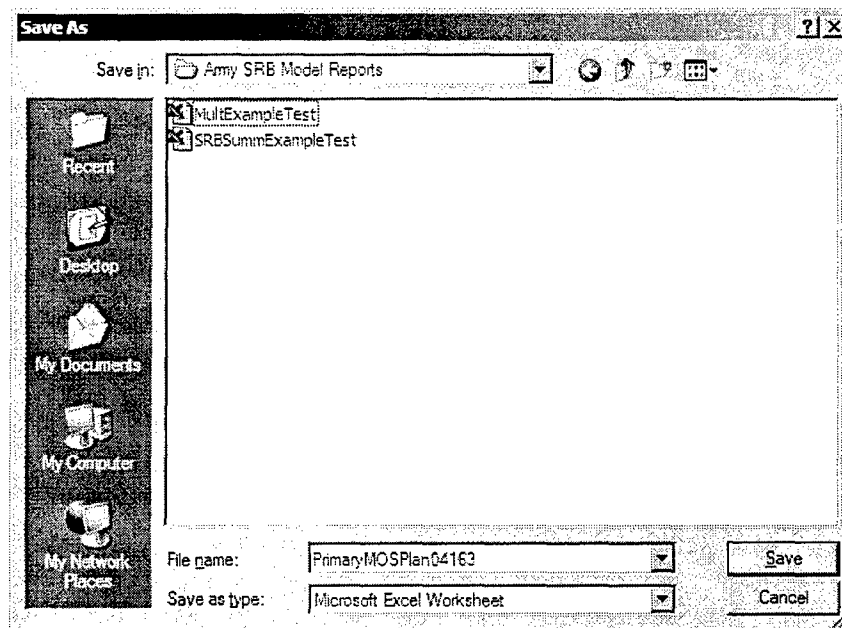

Figure 61. Primary MOS Report Export Save to Disk
- When you save the workbook, you may also choose a different name by overwriting the default name in the File Name box (see Figure 61).